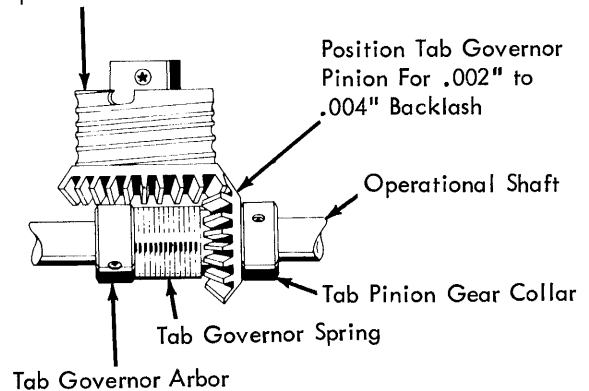

FIGURE 155. Tab Governor Pinion
2. Tab Governor Pinion - Adjust the tab governor pinion to have .002" to .004" backlash at the point of closest mesh with the escapement cord drum gear. Adjust the pinion by moving both the tab governor hub and collar located on each side of the pinion. The pinion should have a minimum of end play yet still rotate freely (Fig. 155).